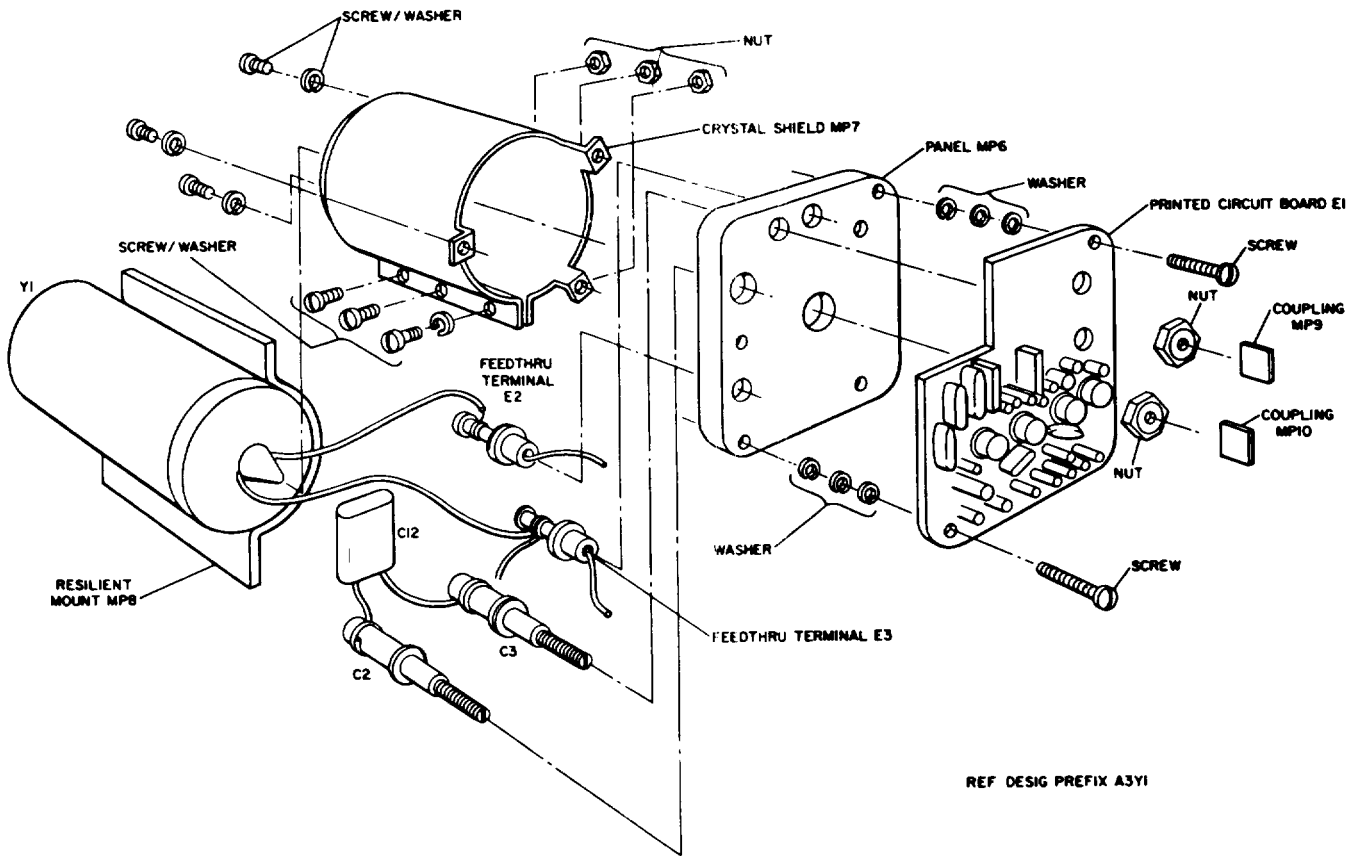

Figure 5-26. Disassembly of Frequency Generator (OVENAIRE)
(1) Perform the procedure of steps (1) through (4) of paragraph ae.
(2) Remove all connections from the three leads of the transistor to be replaced (figure 5-26). Code-mark connections to insure proper reassembly.
(3) Remove and save the disc insulator (A3Y1MP13 through 15).
(4) Place crystal oven into a temperature chamber preheated to 225° F.
(5) Leave crystal oven in the temperature chamber for approximately 1/2 hour; then remove it.
(6) Note orientation of transistor with respect to the crystal oven.
(7) With a small pair of long-nosed pliers grasp all three transistor leads; using edge of crystal oven as a pivot, pry the transistor gently but firmly out of the crystal oven.
(8) Apply Epoxy Adhesive, Tape 1 Mil-S-8623, into the opening in the crystal oven which houses the transistor.
(9) place crystal oven into a temperature chamber preheated to 225° F, and leave it there for approximately 15 minutes to cure.
(10) Remove crystal oven from temperature chamber.
(11) Apply Epoxy Adhesive, Type Mil-S-8623, around the entire replacement transistor, place insulation insert A3Y1MP16 (or MP17 or MP18) over the transistor, and together insert them into the opening on the crystal oven. Be sure the transistor is oriented as noted in step (6).
(12) Repeat the procedure of step (8).